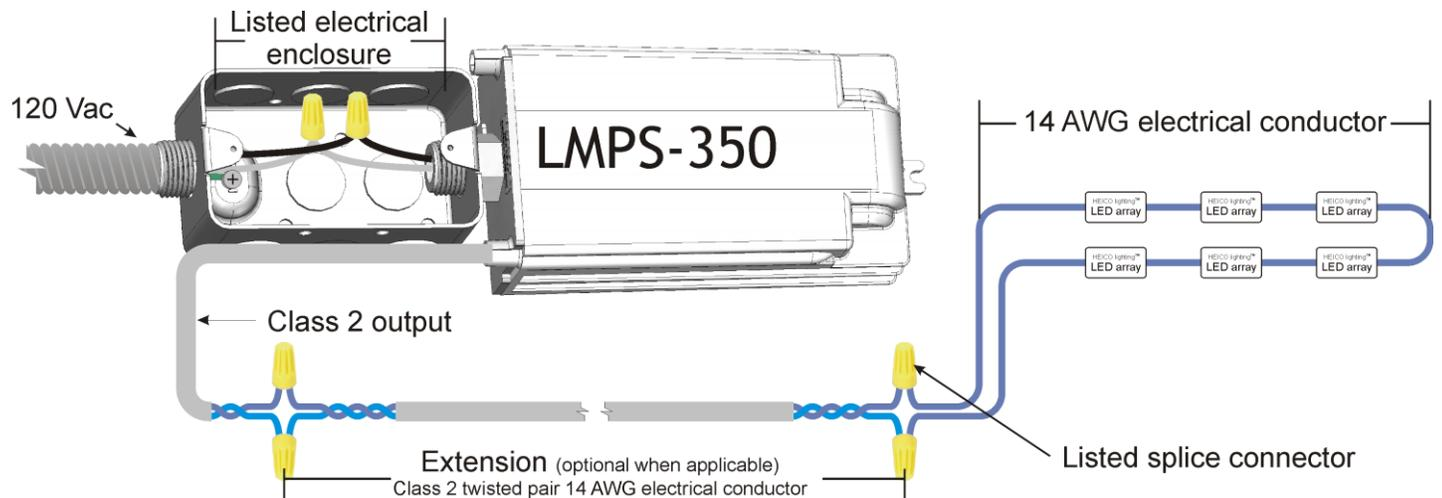

Figure 2: Electrical connections for installation in dry and damp locations (twisted pair extension and LMPS-350 shown, others are similar)
9. If more than one (1) LMPS is used, keep a spacing of at least one (1) inch (25.4 mm) between each LMPS.
10. If the Class 2 feeder circuit needs to be extended between the LMPS and the LED arrays, use twisted pair cable type CL2 14 AWG or better, listed for the applicable environment (figure 2). Substitutions according to **NEC table 725.154(G)** and **CEC article 16.210, 16-222, table 19** are permitted (also refer to **CEC Appendix B**). Permitted substitutions for CL2 wires are: **CMP, CL3P, CL2P, CMR, CL3R, CL2R, CMG, CM, PLTC, CL3**.